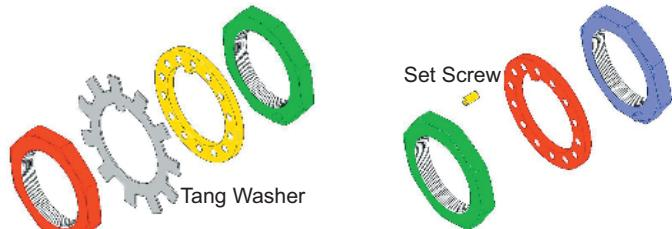

Figure 2: Four-piece nut packs.
- Conventional four-piece nut pack includes an inner nut, a perforated washer, an outer nut and either a set screw or a tang washer (see figure 2).